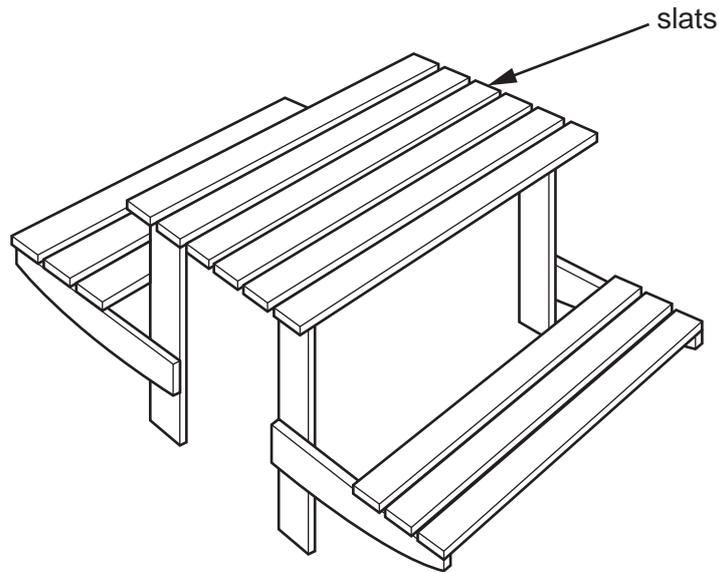

Fig. 8
- 6 Fig. 8 shows a design for a combined table and seat to be used outdoors.